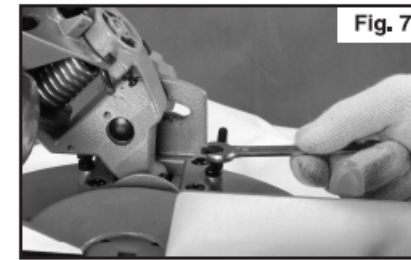

Fig. 7
- If the blade is not at 90° loosen the angle setting bolt on the right and adjust up or down to achieve an angle of 90°. (Fig. 7)